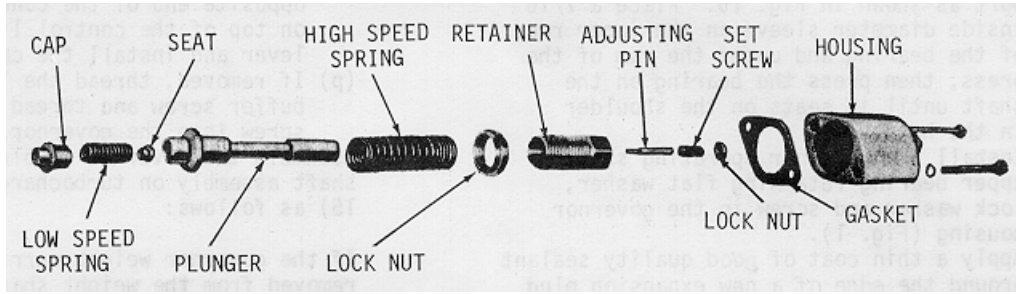

Fig. 17
- (5) Refer to Fig. 1 and Fig. 17 and assemble the high and low-speed spring, plunger and adjusting screw: